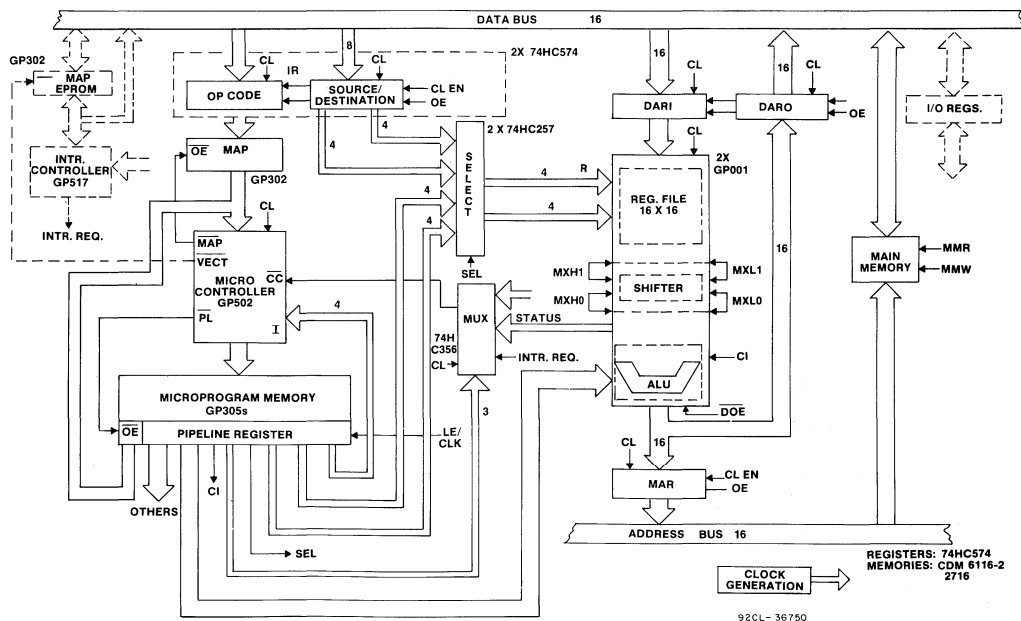

Fig. 6 - A 16-bit microprogrammable bit-slice microcomputer.
An actual design of a system illustrating the use of the GP502 sequencer in a microprogrammable control section that employs GP305s in the control store with an on-chip pipeline register is shown in Fig. 6. The overall system is tied together with MSI parts from the RCA HC line of high-speed CMOS parts. These parts restrict the system to 5-volt operation, which does not permit exploitation of the speed capabilities of the EPIC family (GP) ICs. However, the principles and approaches are independent of the chosen V_{DD} voltage.